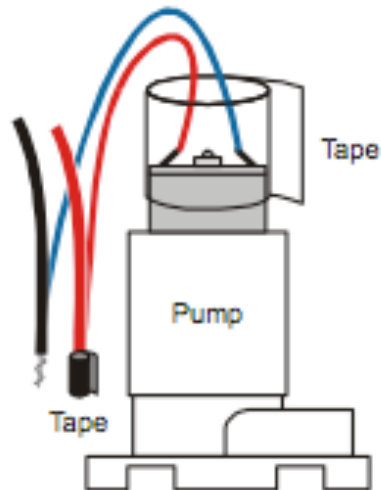

Figure 4.6 : Pump preparation
- i. Preparation of the Pump: Figure 4.6 shows the preparation of the pump.